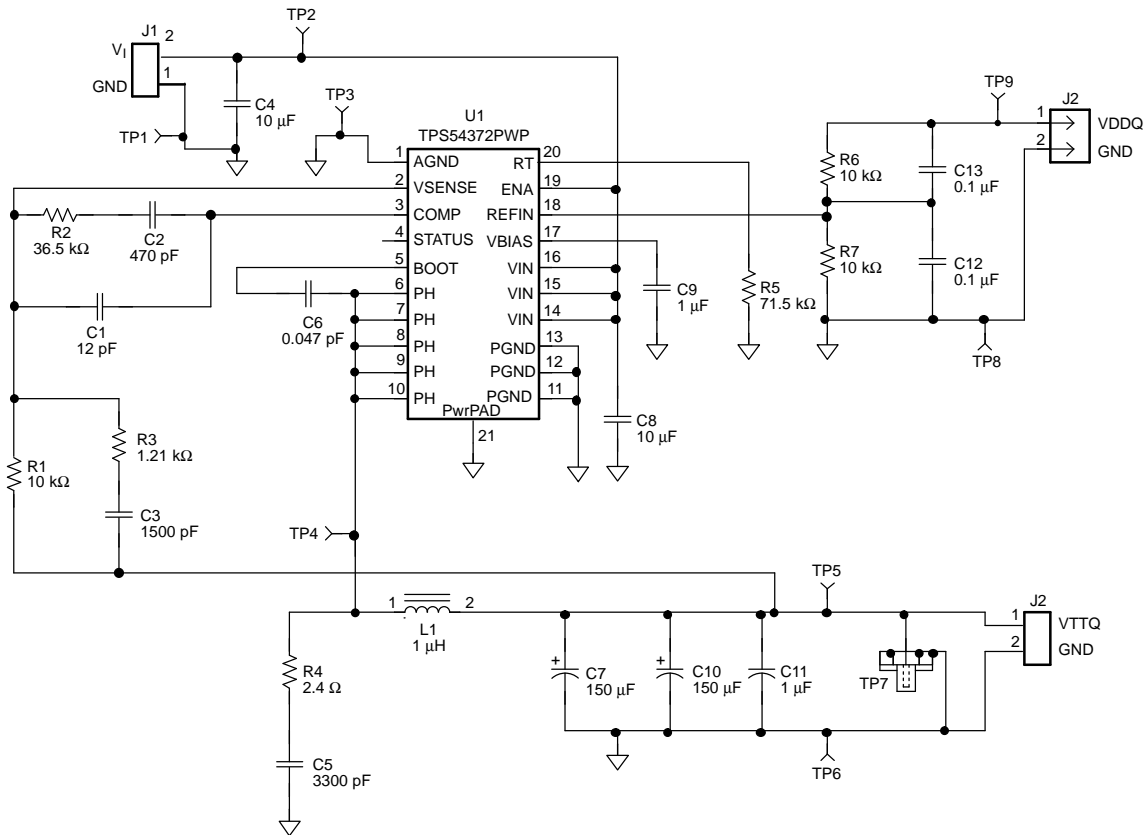

Figure 8. Application Circuit
- (1) Specified by design
- (2) Static resistive loads only
- (3) Specified by the circuit used in Figure 8
Figure 8 shows the schematic diagram for a typical TPS54372 application. The TPS54372 (U1) can provide up to 3 A of output current at a nominal output voltage of one half of  $V_{DDQ}$  (typically 1.25 V). For proper operation, the PowerPAD underneath the integrated circuit TPS54372 is soldered directly to the printed-circuit board.